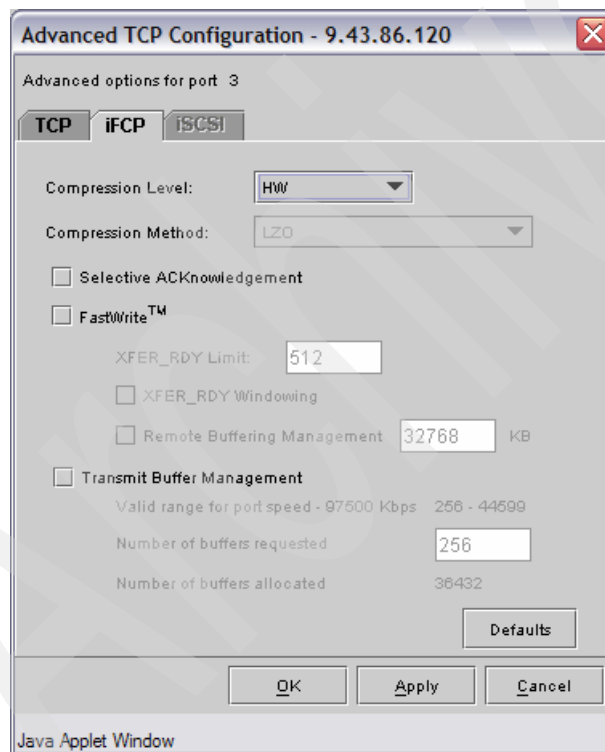

Figure 17-62 Advanced iFCP configuration tab
3. Select the **iFCP** tab. The choice of Compression Level depends on the characteristics of the network being used, and whether the optional compression feature is installed. Because we are using a slow network link, compression is strongly recommended. Also, because we have support at both ends of the iFCP link for hardware compression, that is the best option to use because it is more efficient than software compression. Therefore, we select **HW** from the drop-down list shown in Figure 17-62. Refer to the *McDATA SAN Router Administration and Configuration Manual, 620-000206*, for a description of the compression options and the other advanced options.